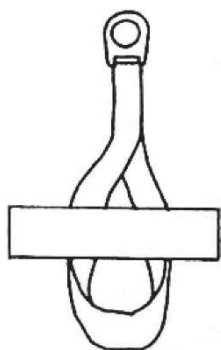

Fig. 1
- ◆ Wrap the Temporary Anchorage Sling around the structural member as shown in Fig. 1.